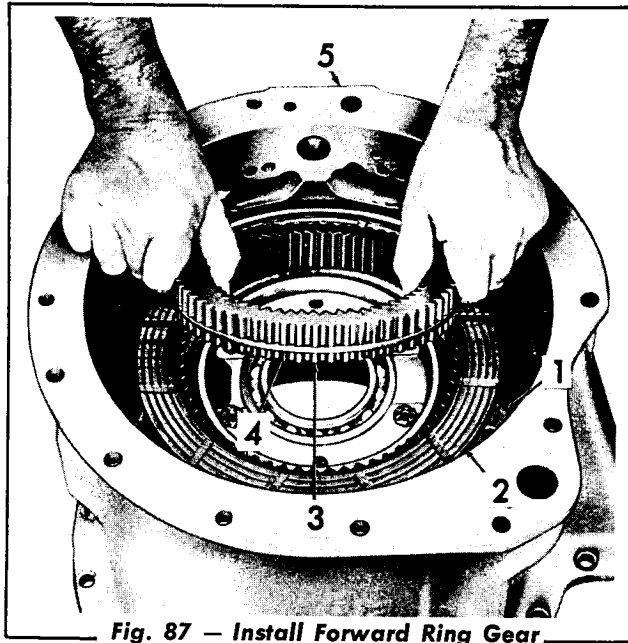

Fig. 87 — Install Forward Ring Gear
3. Install one external (Fig. 87) and one internal splined forward clutch plate. Install